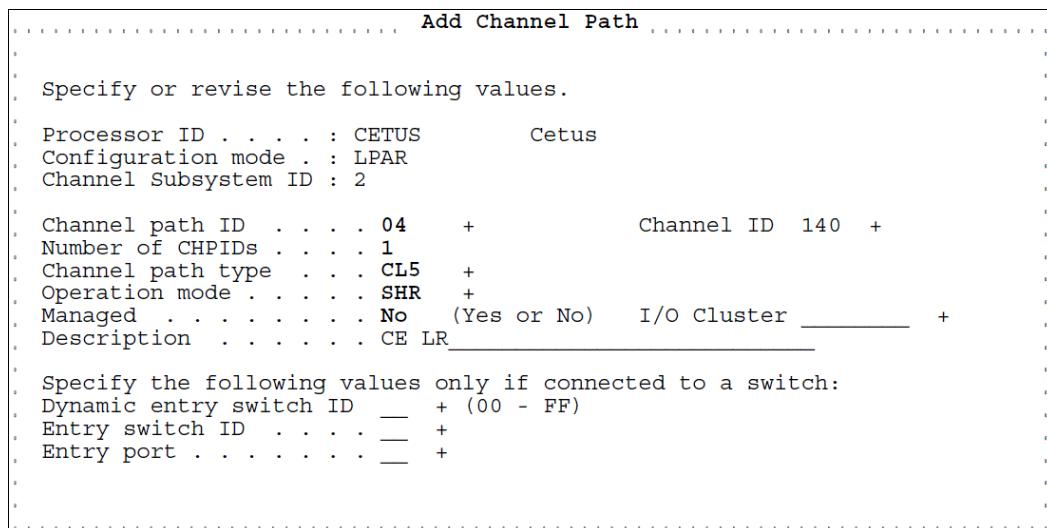

Figure 9-3 Adding CHPID CL5 on z14
4. In the Add Channel Path panel (Figure 9-3), add these settings for the instance: CHPID 04, type CL5, mode SHR, PCHID 140. Then, press **Enter**.